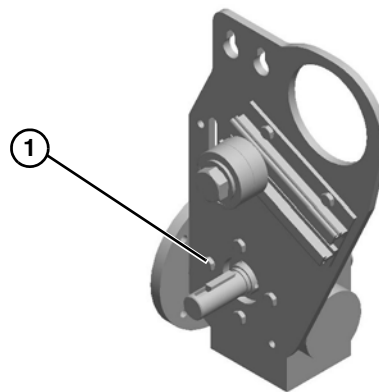

Figure 31
- Remove four gear reducer mounting bolts (**Figure 31, item 1**). Remove gear reducer.